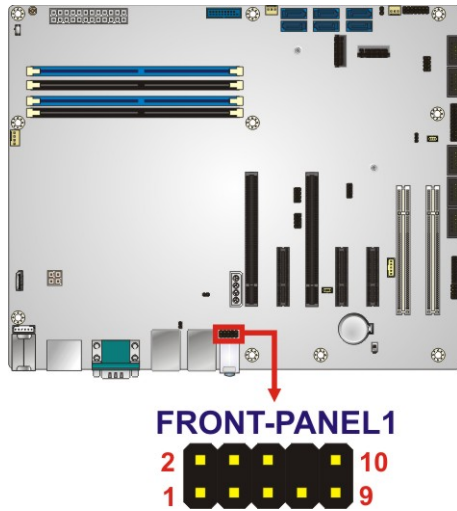

Figure 3-13: Front Panel Audio Connector Location
- CN Location:** See **Figure 3-13**